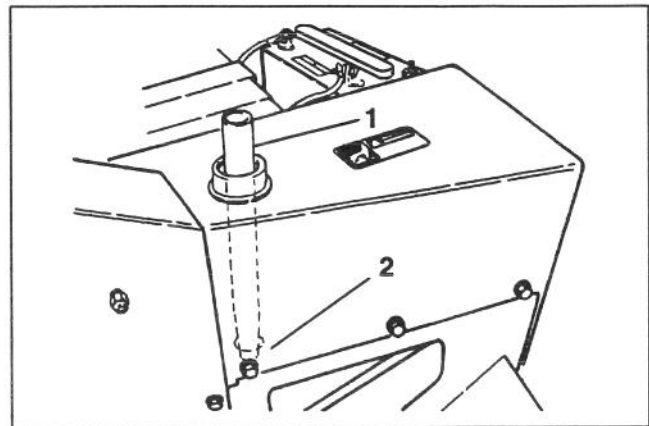

Figure 47
2. If only the filter is to be changed, remove reservoir cap and insert reservoir plug (Fig. 47), to block outlet.